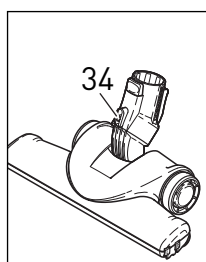

Figure 6
**The vacuum can be stored with the canister in a horizontal or vertical position (figures 6, 7 & 8).** The Parquet brush, Kombi nozzle and Turbo nozzle have a parking tab located on the front of the neck (34). Insert the parking tab into the upper side of the parking groove (18 or 22) and slide down firmly. For vertical storage, or for easy carrying, use the parking groove on the underside (18). For horizontal storage, use the parking groove on the end of the canister (22).